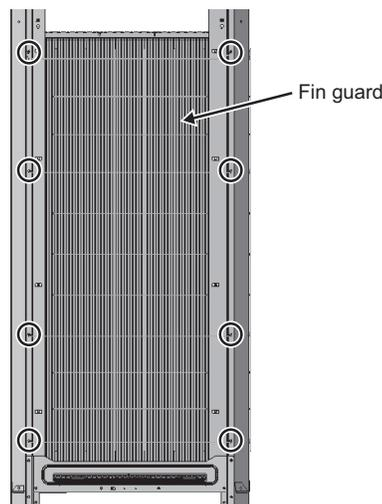

Fig. 40
(12) If the unit comes with fin guards, remove them. (Eight screws on the left and right: Fig. 40)